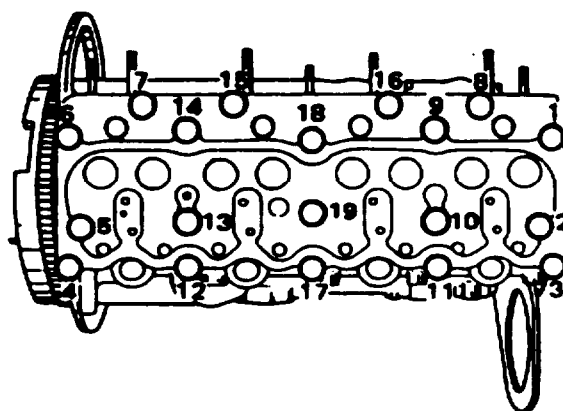

FIGURE 3-61. Cylinder Head Bolt Loosening Sequence
- h. Loosen nineteen bolts (2) a file at a time in the sequence shown in FIGURE 3-61.